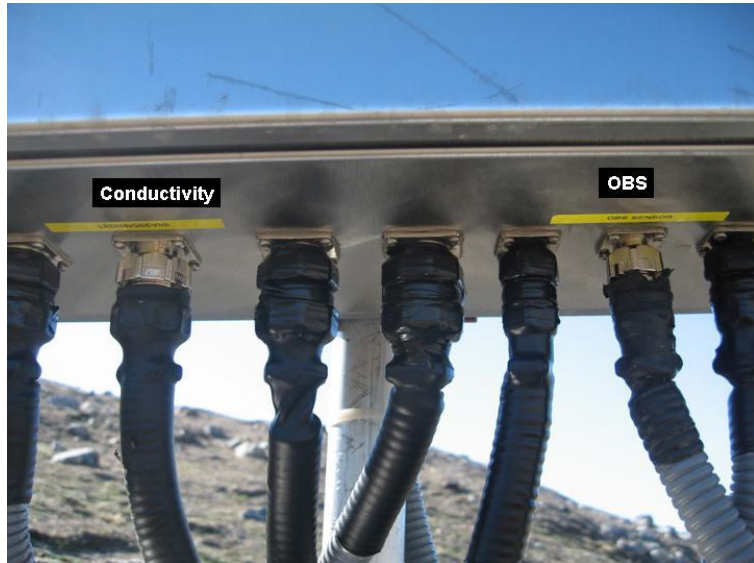

Fig 7.10 Detached cable/plugs stored during winter in the plastic bottle wired to the mast (left). All cable inlets to the data logger enclosure (right).
6. Finally, connect the cables to the data logger. The connectors are stored in plastic containers fixed on the mast and are ready to connect on the outside/bottom of the data logger enclosure (Fig 7.10).